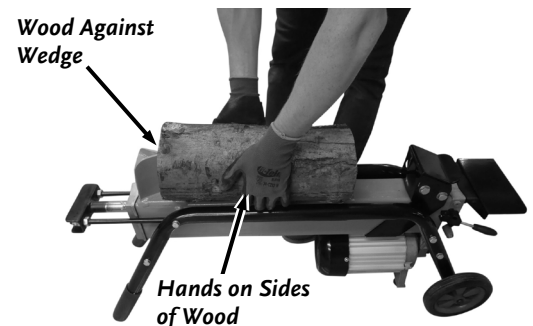

Figure 9
1. Grasp the log on the sides near the middle of the block as you place the log on the Log Splitter. (**Figure 9**). Center the log, side-to-side, on the rail of the Log Splitter, making sure that one end is against the Splitting Wedge.